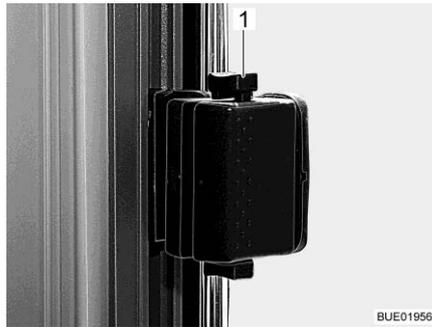

Fig. 115 Sliding window, locked
- Push the latch (Fig. 115,1) downwards.